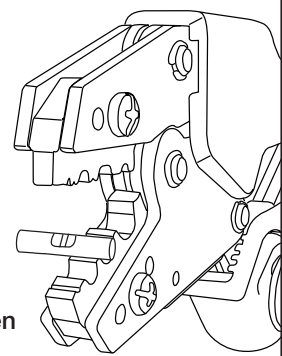

Figure 3
2. Splices requires two crimps. Position splice in proper nest as shown in Figure 3 with window facing indenter.